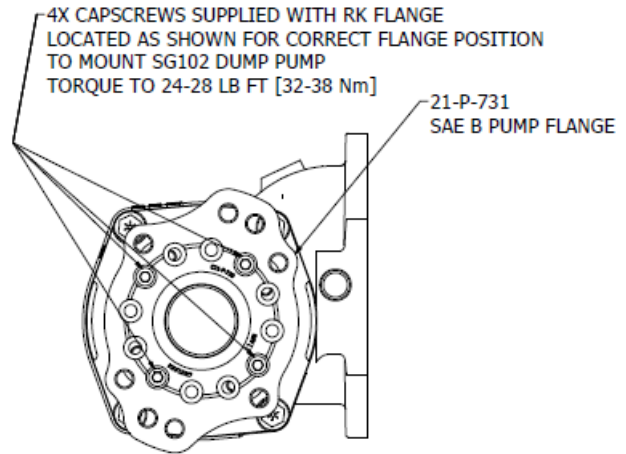

Figure 3 – 280 PTO RK Flange Installed
- For proper pump orientation with pump support brackets, please note the angle of RK output pump flange as shown in *Figure 3*.